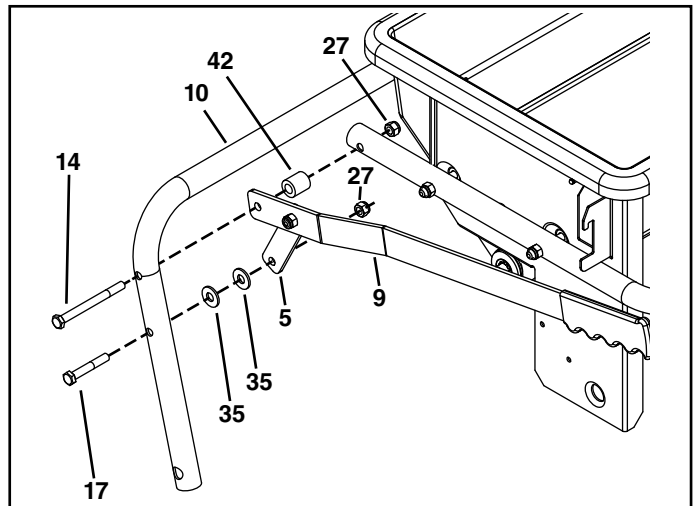

FIGURE 3
- Insert a 5/16" x 3-1/2" hex bolt (14) through the transport tube (10), the lift handle (9), a spacer (42), and through the hitch tube. Secure with a 5/16 nylock nut (27).
- Insert a 5/16" x 2" hex bolt (17) through the transport tube (10), two 5/16" flat washers (35), and the handle brace bracket. Secure with a 5/16" nylock nut (27).
**Tighten.** See figure 3.